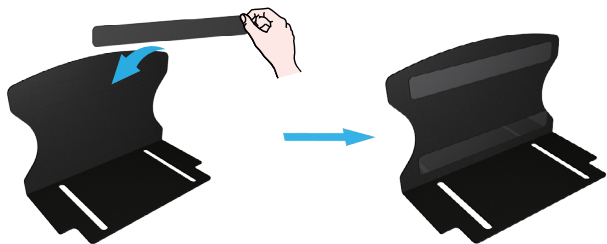

Figure 9
1. Remove the protective backing of one the **Rubber Self-Adhesive Strips**. Carefully place the **Rubber Self-Adhesive Strips** on the top part of the **Wall Mounting Bracket**. Figure 9.
2. Repeat **Step 2** with the remaining **Rubber Self-Adhesive Strip** and place it on the bottom part of the **Wall Mounting Bracket**. Figure 9.